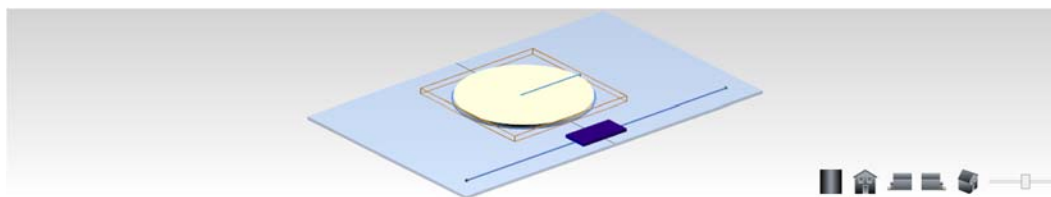

Figure 34
6. You can see that a 20' diameter turntable has been placed on center line of the stage and a little bit upstage of the *Pushstick* wagon (Figure 34).